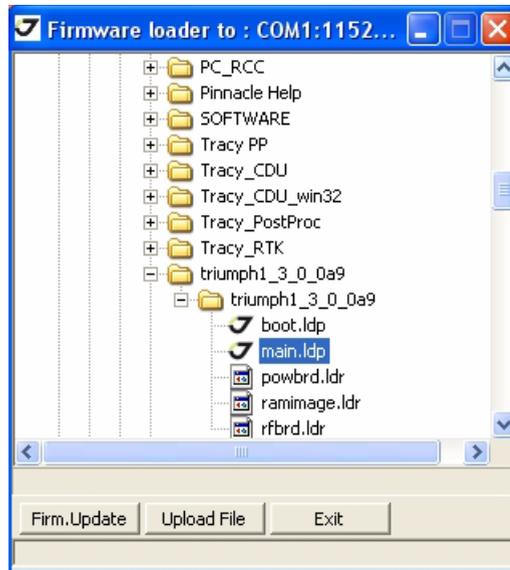

Figure 5-17. Load New Firmware
5. Open the required firmware folder. Select the *main.ldr* file (Figure 5-17):